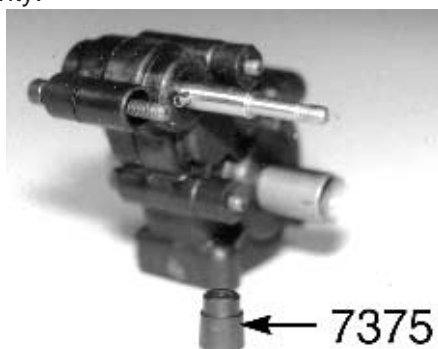

Fig. 67
□ **Fig. 67** Now we can take the three #7375 black motor plate spacers we set aside in Fig. 56. These are going to install into three cavities of the right housing half over the threaded ends of the #6928 SHCScrews as shown. They will install with the small end of the spacer first which will fit into the cavity.